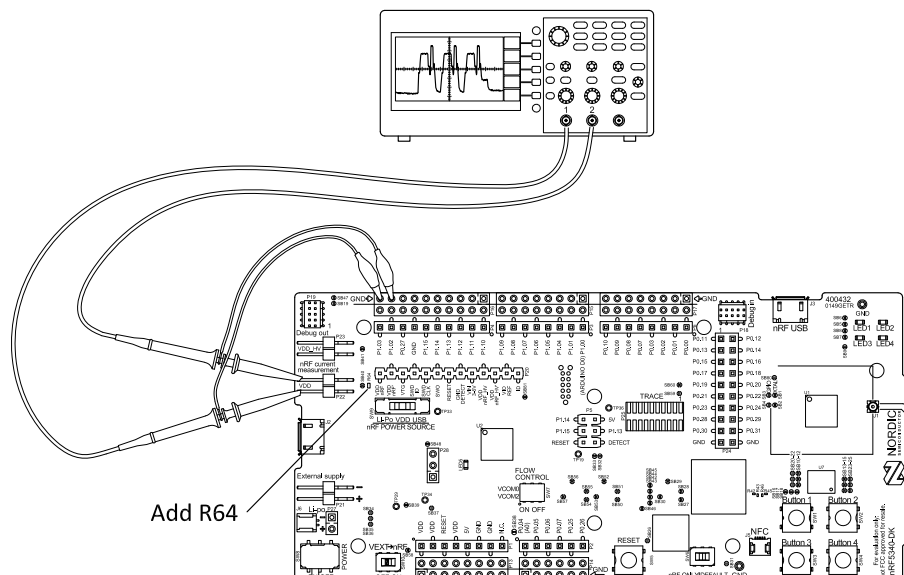

Figure 36: Current measurement with an oscilloscope
3. Connect the oscilloscope using two probes on the pins of the **P22** connector as shown in Figure 36: Current measurement with an oscilloscope on page 38.